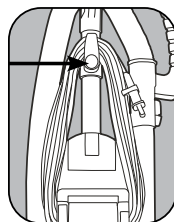

Fig. 2
3. Turn the upper cord hook to the upright position and wind the power cord around the cord hooks when storing the vacuum cleaner (Fig. 2).
1. The upper cord hook has a quick-release. To release the cord, rotate the hook downward (Fig. 2).